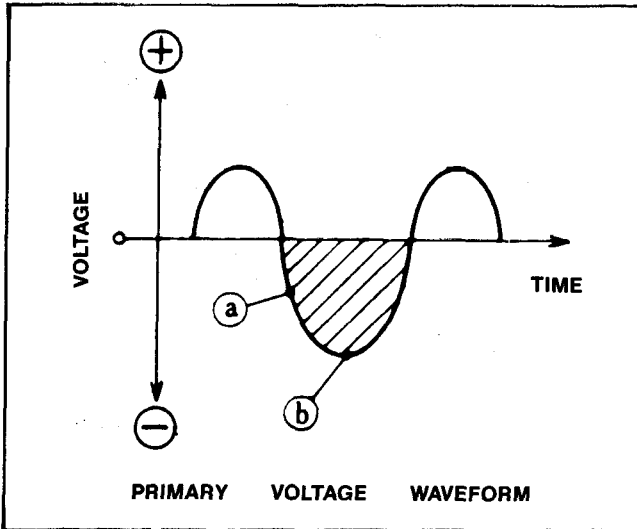
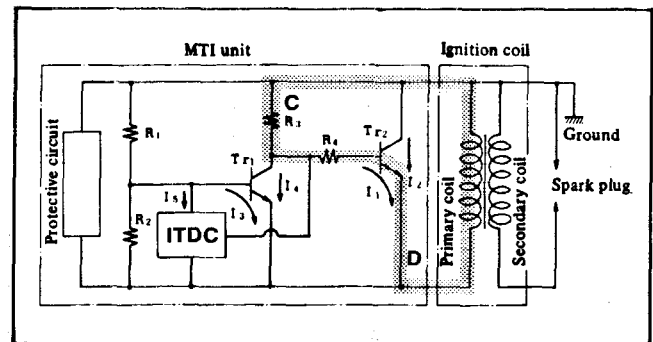
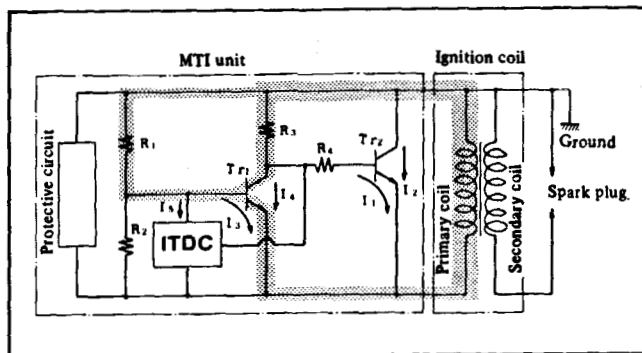

Figure 50
Figure 53
Figure 55
Before getting into the actual electronics used inside the trigger module, it is important to have an understanding of the voltage waveform produced by the flywheel magnets moving by the ignition coil. See Fig. 50.
2. As the voltage begins to increase, (approximately point "a" in Fig. 50) transistor Tr_2 is turned on and current flows from point "C" to point "D" through R_3 , R_4 , and Tr_2 . See Fig. 53.
4. When the voltage is at the point "a" level as denoted above in Figure 50, Tr_1 is still in the "off" mode and allows no current I_3 or I_4 to flow.
- As the voltage produced in the primary coil reaches its negative peak (point "b" in Figure 50), transistor Tr1 is turned on and allows small current I3 and large current I4 to flow. See Fig. 55.
Another task the trigger module performs is to limit the maximum revolutions per minute that the engine will attain. It does this by means of the ITDC (ignition timing delay circuit) which can also be seen in Figure 55.